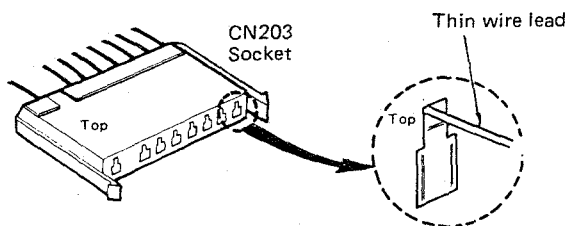

Fig. 8-5-4
- Remove the three pins from the CN203 connector body corresponding to the three wire leads by using the thin wire lead such as resistor lead to depress the holding tab on the pins. (Fig.8-5-4)